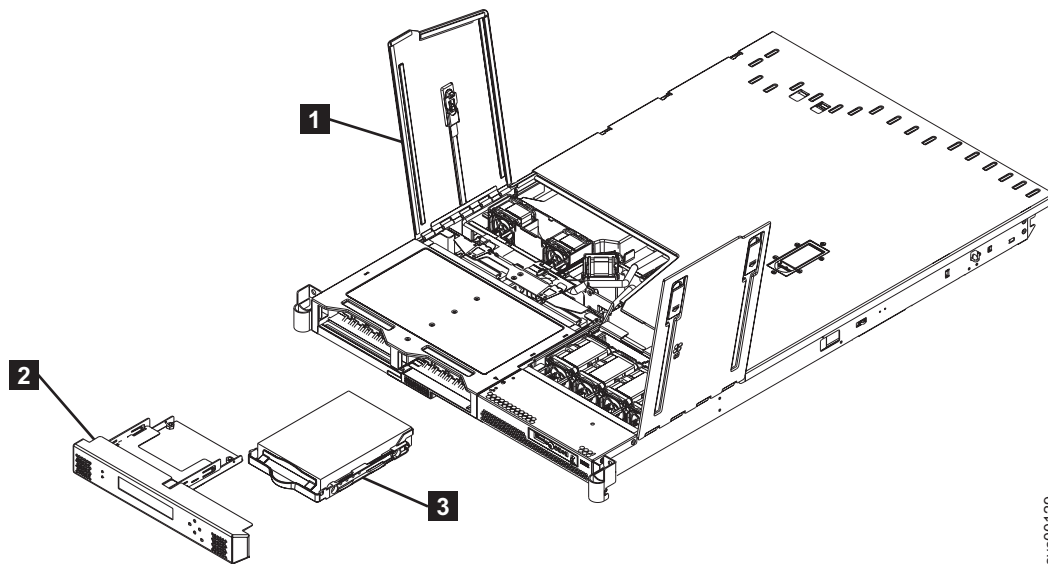

Figure 102. Removing the SATA disk drive
5. Open fan door A (1 in Figure 102).